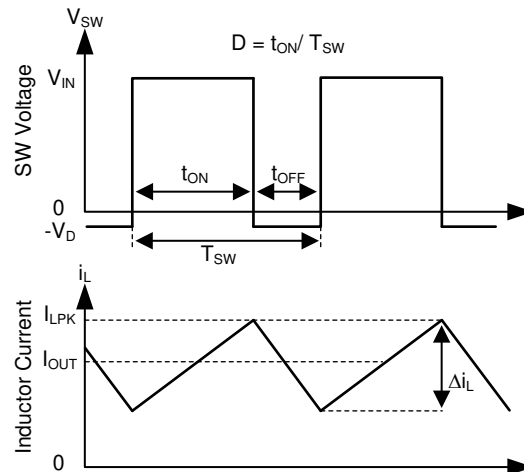

图 10-2. SW Node and Inductor Current Waveforms in Continuous Conduction Mode (CCM)
The following operating description of the TPS2585x-Q1 refers to the Functional Block Diagram. The TPS2585x-Q1 integrates a monolithic, synchronous, rectified, step-down, switch-mode converter with internal power MOSFETs and USB current-limit switches with charging ports auto-detection. The TPS2585x-Q1 offers a compact and high efficiency solution with excellent load and line regulation over a wide input supply range. The TPS2585x-Q1 supplies a regulated output voltage by turning on the high-side (HS) and low-side (LS) NMOS switches with controlled duty cycle. During high-side switch ON time, the SW pin voltage swings up to approximately V_{IN} , and the inductor current, i_L , increase with linear slope $(V_{IN} - V_{OUT}) / L$. When the HS switch is turned off by the control logic, the LS switch is turned on after an anti-shoot-through dead time. Inductor current discharges through the LS switch with a slope of $-V_{OUT} / L$. The control parameter of a buck converter is defined as Duty Cycle $D = t_{ON} / T_{SW}$, where t_{ON} is the high-side switch ON time and T_{SW} is the switching period, shown in 图 10-2. The regulator control loop maintains a constant output voltage by adjusting the duty cycle D. In an ideal buck converter, where losses are ignored, D is proportional to the output voltage and inversely proportional to the input voltage: $D = V_{OUT} / V_{IN}$.